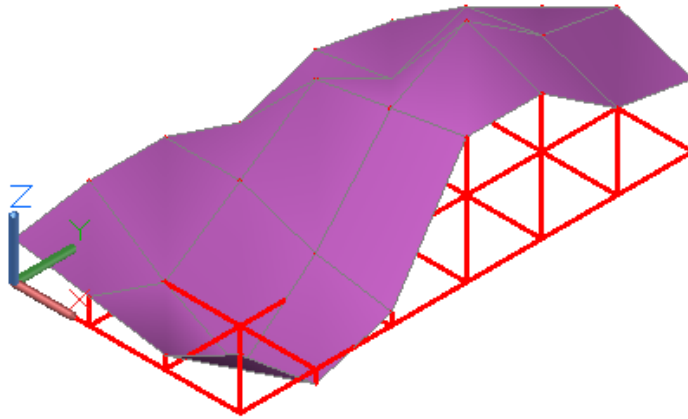

Figure Step 4
Step 4 On layer: Surface 3, draw a 3D mesh on the grid using the 3D MESH command and snapping to ends of the Z coordinates. Set the current visual style to Realistic. (Figure Step 4)